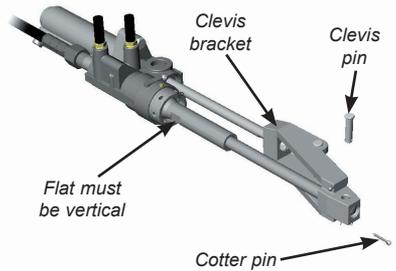

Fig B13 - Steering cylinder in fully extended position
- Use the helm to extend the steering cylinder to full hard over as shown in Fig B13 (it may be necessary to run the engine to do this).